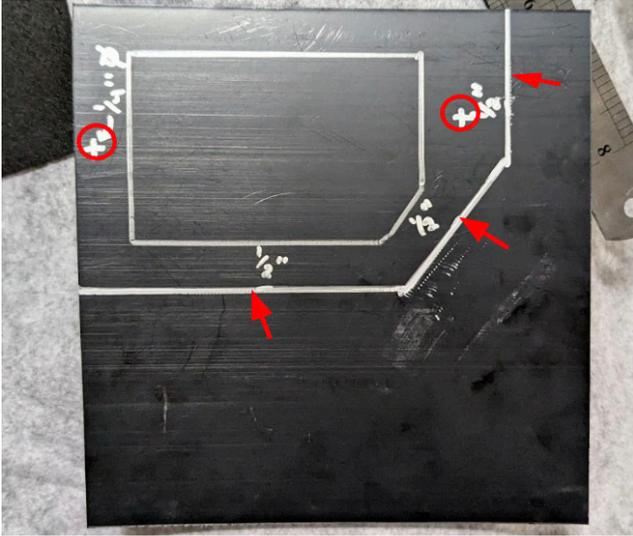

Figure 38.
30. Using a silver marker and ruler, offset the previously marked line 1/2" outboard from the closest part marked. Using scissors, cut along the offset line. Using a 1/4" drill bit, drill a t the two (2) mounting hole locations circled. Figure 38.